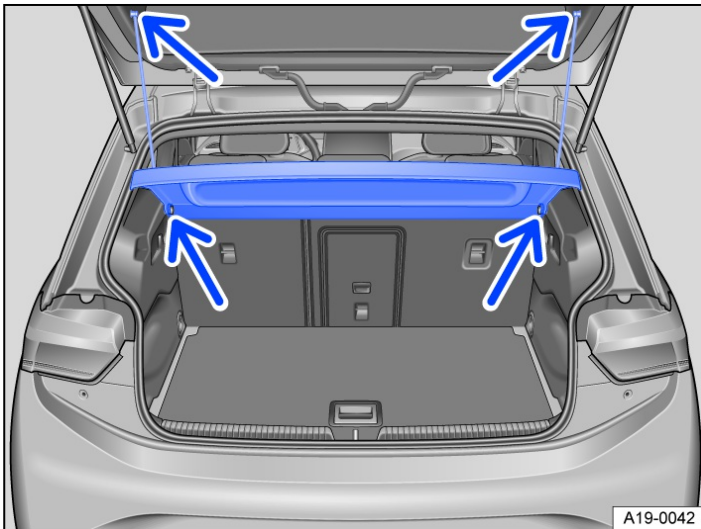

Fig. 1 In the luggage compartment: removing and installing the luggage compartment cover.
1. Unhook the retaining straps from the boot lid → Fig. 1 (upper arrows).